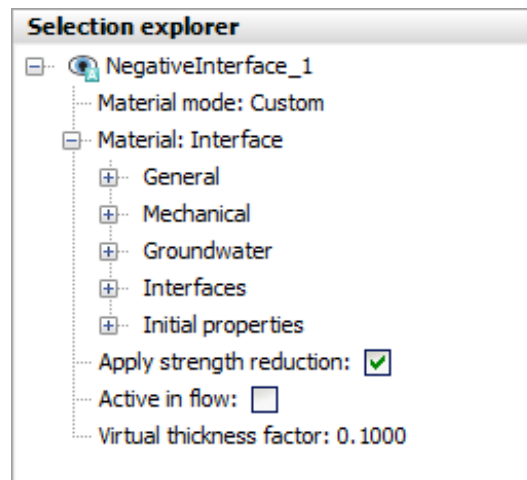

Figure 44: Interface material assignment in Selection explorer
12. In the **Model explorer** select each **Interface**. Once the interfaces are selected, in the **Selection Explorer** inside the **Material mode** select **Custom** from in the displayed dropdown menu (see Figure 44 (on page 66)).